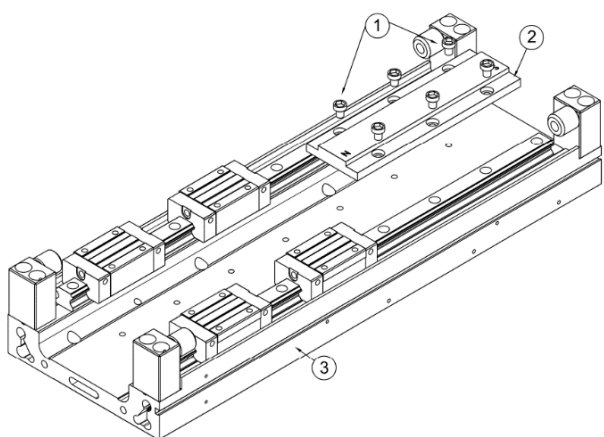

Figure 5.1-4 First stator installation
First, install one set of the stator. During installation, please be aware of the level of parallelism of the sliding track and the stator, followed by using screws to ① install ② the stator on the platform ③. (refer to Figure5.1-4)